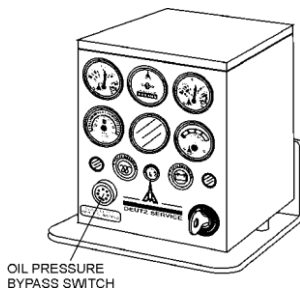

Figure 9. Control Box (Old Style)
1. Insert ignition key into the ignition switch located on the control box (Figure 9).